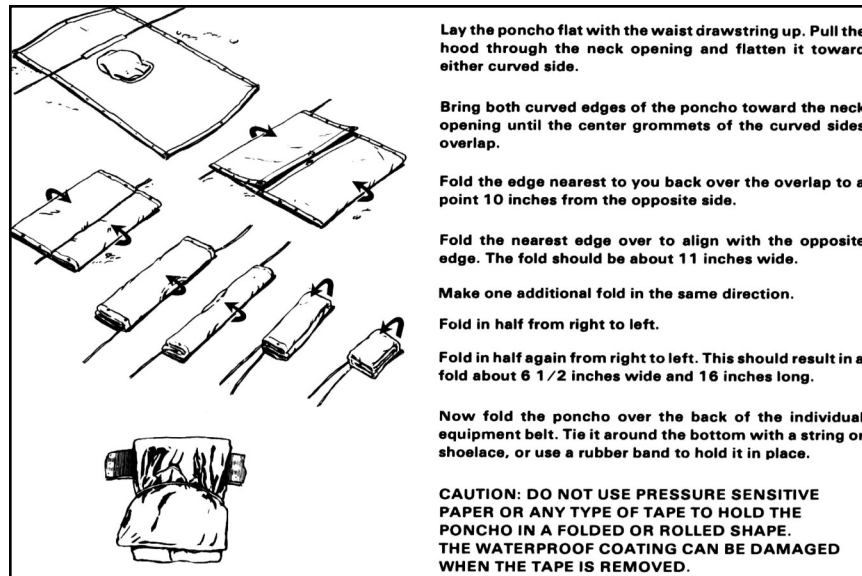

Figure 8-3
**Folding and Packing Methods.** When possible, completely air-dry the poncho before folding it. If it is necessary to fold the poncho while it is wet, unfold, air-dry, and refold it as soon as possible. The poncho can be folded and carried with your load-carrying equipment. Fold it in any manner, and carry it in the duffel bag or the field pack if space permits. Take care not to press it against sharp or rough objects which may cause damage. Fold the poncho for carrying on the individual equipment belt as shown in figure 8-3.